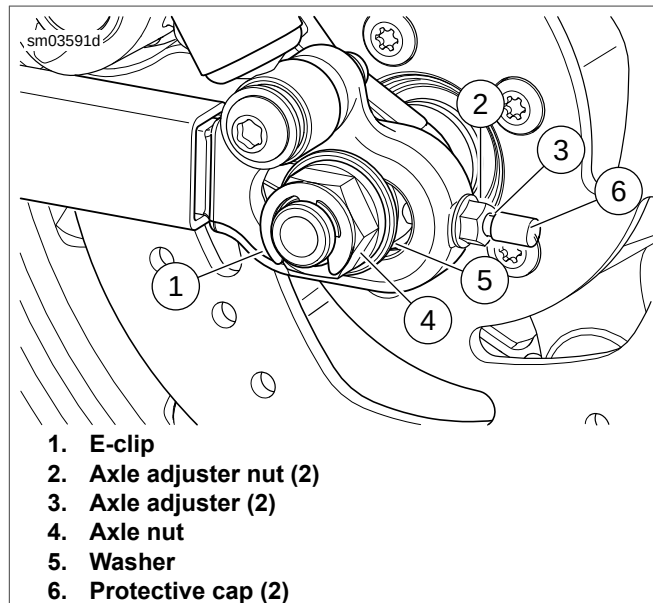

Figure 1-34. Drive Belt Adjustment: XL Models
2. See Figure 1-34. Remove and discard E-clip (1) and loosen rear axle nut (4).